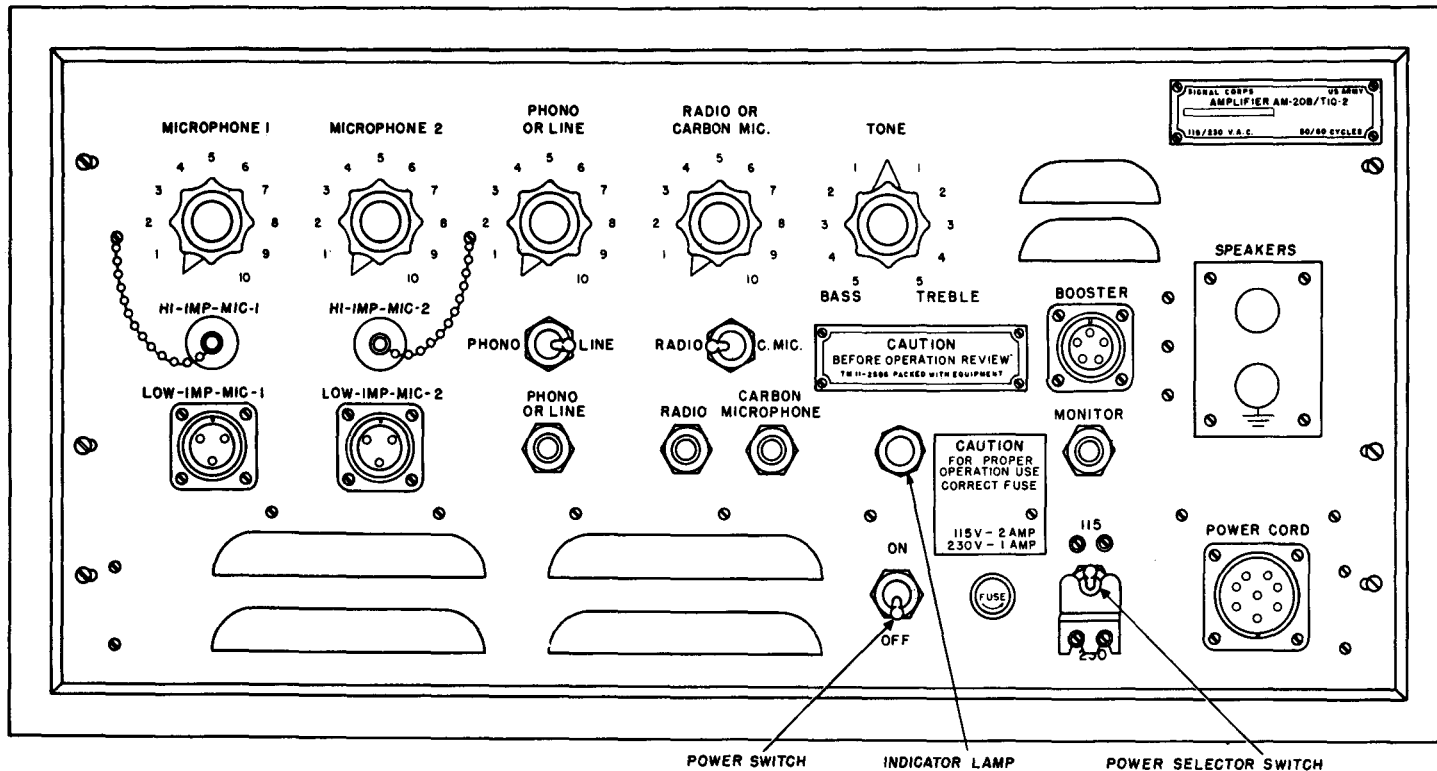

Figure 23. Amplifiers AM-20/TIQ-2, AM-20A/TIQ-2, and AM-20B/TIQ-2, control panel.
a. Start the amplifier by setting the power switch to the ON position. The indicator lamp (fig. 23) should light. Allow a few minutes for the tubes in the amplifier to warm up.
a. *General.* Use the four knobs marked MICROPHONE 1, MICROPHONE 2, PHONO or LINE, and RADIO OR CARBON MIC. (located at the top of the amplifier panel (figs. 23 and 24)) to make the sound coming from the speakers louder or softer. To make the sound louder, turn the knobs to the right. If the knobs are turned too far to the right, the sound will become a squeal; turn the knobs to the left until the squealing stops. To make the sound softer, turn the knobs to the left. The subparagraphs below describe the use of each knob.
- (1) When the PHONO-LINE switch is in the PHONO position and the cord that is plugged into the PHONO OR LINE jack comes from the turntable.
- (2) When the PHONO-LINE switch is in the LINE position and the cord that is plugged into the PHONO OR LINE jack comes from a special telephone line or when a booster amplifier or low impedance phonograph is being used.
Use the knob on the amplifier panel marked TONE (figs. 23 and 24) to make the voice or music sound deeper or higher. To make it sound deeper, turn the knob to the left in the direction of the position marked BASS. To make it sound higher, turn the knob to the right in the direction of the position marked TREBLE. There are five marks on each side. Turn the knob one mark at a time until the best tone is heard coming from the speakers.